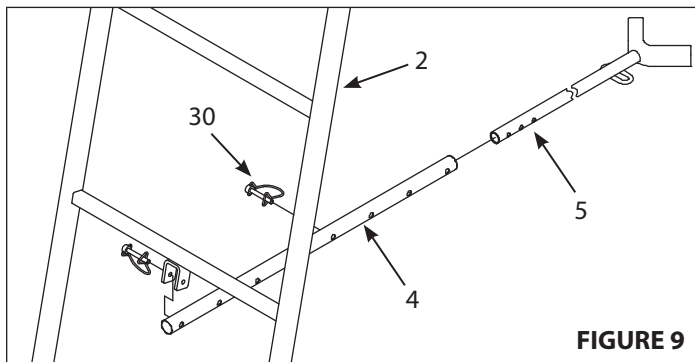

FIGURE 9
16.a. Attach the stabilizer bar extension tube (4) to the second ladder section (2) mounting bracket using one spring lock pin (30). **SEE FIGURE 9.**
b. Slide the stabilizer bar (5) into the extension tube (4) and attach the two pieces together using one spring lock pin (30). Spring lock pin must go through both the extension tube and stabilizer bar at appropriate hole to achieve desired distance from tree. Adjustment in length may be needed when ladder is uprighted later in instructions. **SEE FIGURE 9.**